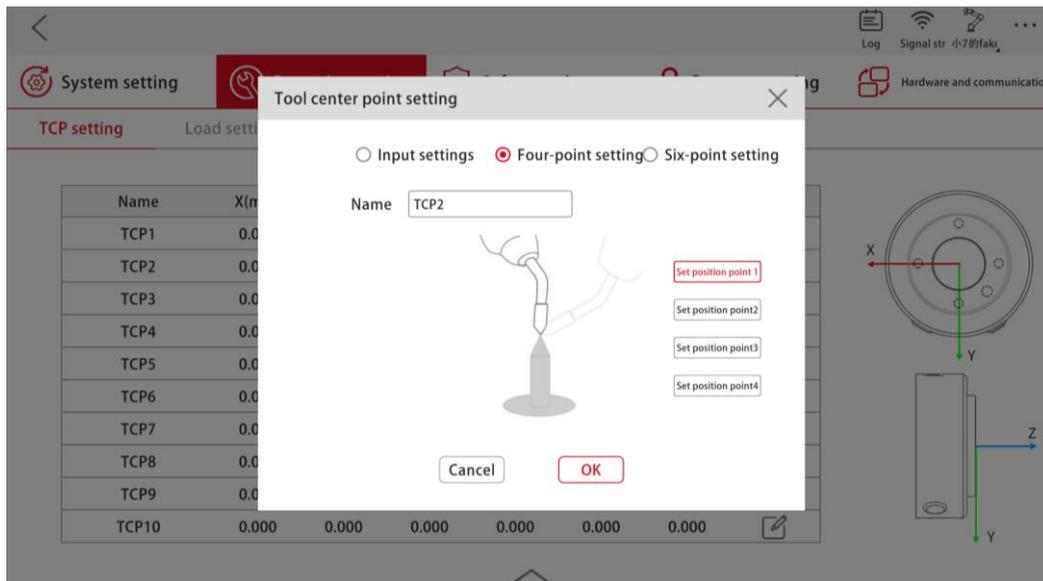

Figure 3-8 Four-point Setup Interface of Tool Coordinate System
(2) Four-point setup (as shown in Figure 3-8): After determining a fixed point in the space, users control the robot in four different positions to make the TCP end point reaches the fixed point, and the desired position offset of the tool coordinate system relative to the flange coordinate system can be automatically calculated via "four-point setup". The specific setting process is shown as follows: